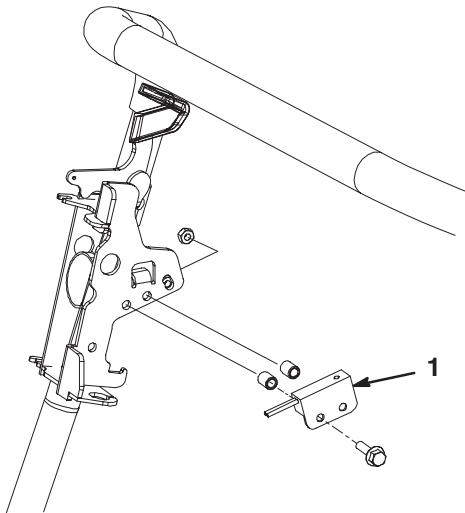

Figure 6
12. Remove the two screws, spacers and nuts securing the proximity switch to the control bracket (Fig. 6). Move the switch away from the bracket.
18. Loosely mount the proximity switch to the control bracket with (2) M6 x 1-14 screws, spacers and M6 nuts (Fig. 6). Do not tighten.